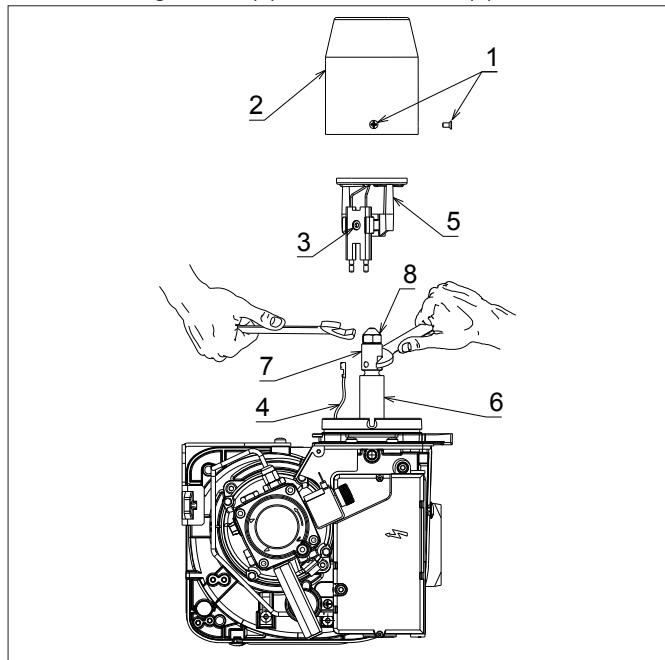
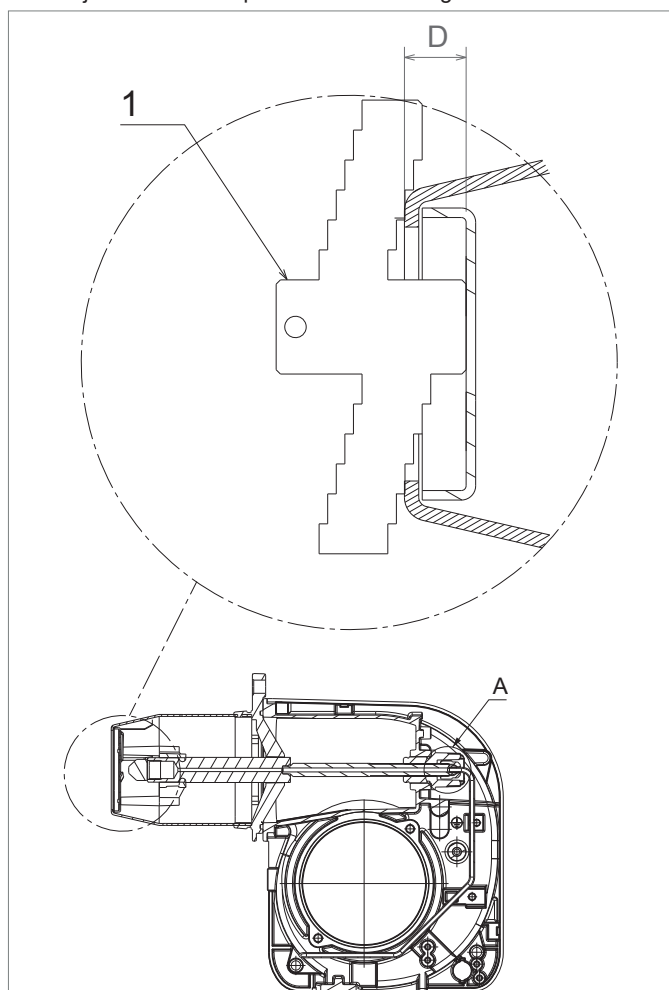

Figure 10-3: Burner head, recirculation tube (if fitted) diffuser and nozzle holder
Figure 10-5: Riello RDB 2.2 BX diffuser position and gauge plate
1. Remove the burner head. Refer to Figure 10-3. Loosen the three fixing screws (1) and remove head (2) from burner.
3. If the nozzle needs to be replaced - remove the diffuser/electrode assembly. Refer to Figure 10-3.
- Using a 4 mm Allen key, loosen the diffuser fixing screw (3) on the electrode assembly.
- Lift diffuser/electrode assembly (5) up and off the nozzle holder.
- Disconnect both ignition leads (4) from the electrodes.
4. Use a 16 mm spanner to remove/re-fit the nozzle (8), whilst holding the nozzle holder (6) using a 19 mm spanner.
5. Re-fit the diffuser/electrode assembly. Refer to Figure 10-3.
- Reconnect ignition leads (4) to electrodes.
- Re-fit the diffuser/electrode assembly (5) onto the nozzle holder lining up the fixing screw with the recess in the nozzle holder.
- Tighten the fixing screw (3) to secure the diffuser/electrode assembly in place on the nozzle holder.
7. Re-fit the burner head. Refer to Figure 10-3.
- Locate the head fixing screws (1) in the countersunk slots in the burner collar.
- Tighten the three screws (1) to secure the head (2) in position on the burner.
8. Adjust the diffuser position. Refer to Figure 10-5.
- Position the gauge plate on the burner head as shown in Figure 10-5.
- If necessary, adjust distance D using the black adjustment knob located around the oil supply pipe on the front of the burner. Refer to item A (Figure 10-5). Re-check distance D using the gauge plate, as described above.